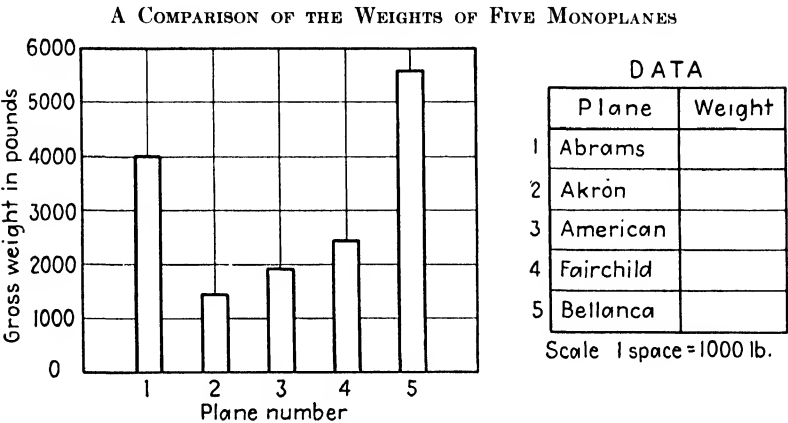

Fig. 140.
1. Construct the graph shown in Fig. 140 in your own notebook and complete the table of data.